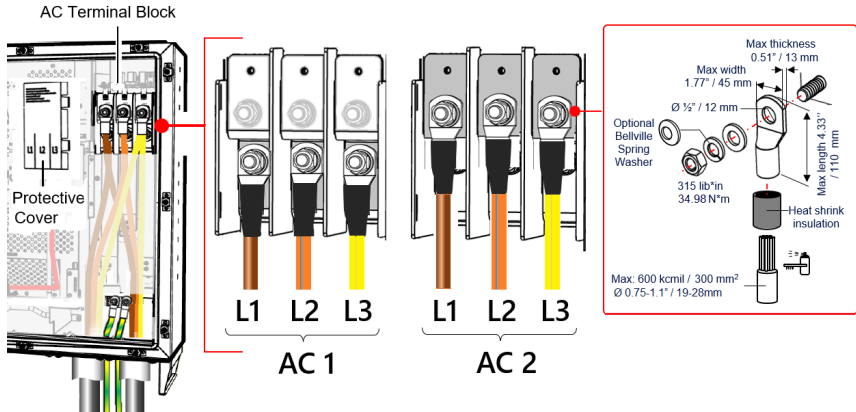

Figure 31: Connecting AC wires to the Inverter
11. Connect the L1, L2, L3 wires to the terminal block according to the labels on the terminals. Tighten the nuts to 34.98 N\*m/25.8 lb\*ft (see *Figure 31*).